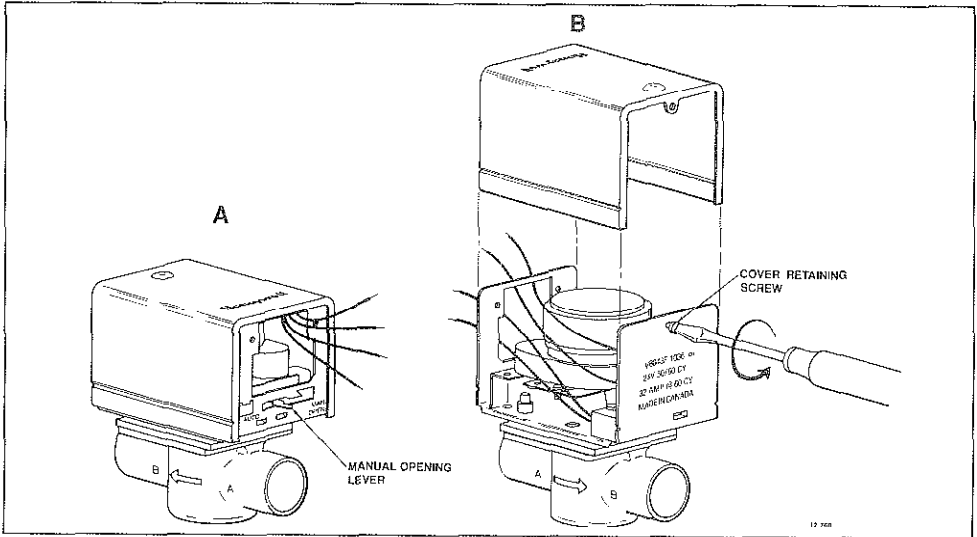

Fig. 5—Remove old powerhead from new style valve body.
3. Remove old powerhead (see Fig. 5)—